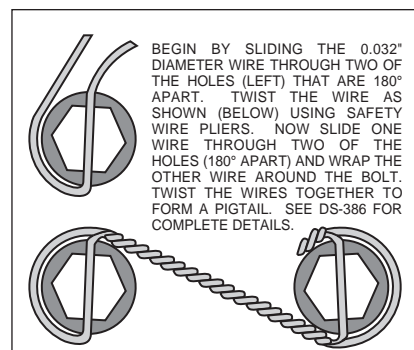

Figure 4. Safety Wire Diagram
- Slide the bracket kit assembly (1) onto the housing flange and then insert the axle assembly through the center hole of the bracket kit assembly (1). Secure using the stock Original Equipment Manufacturer (OEM) bolts and nuts. Stock OEM hex nuts that retain the bracket kit assembly (1) should be on the wheel side of the bracket. Apply red *Loctite*® 271 to the stock OEM bolt threads and torque to OEM specifications. Make sure the bracket kit assembly (1) brake pads are FACING OUTWARD TOWARDS THE WHEEL.
- With the larger I.D. side of the rotor (3) facing away from the hat (2), bolt rotor (3) to hat (2) through the backside of the rotor using washers (4) and bolts (5). Using an alternating sequence, apply red *Loctite*® 271 to the threads and torque bolts to 155 **in-lb**. For an added measure of security, the bolts may be safety wired using standard 0.032 inch diameter stainless steel safety wire as shown in Figure 4. Please refer to Wilwood's data sheet DS-386 (available at [www.wilwood.com/Pdf/DataSheets/ds386.pdf](http://www.wilwood.com/Pdf/DataSheets/ds386.pdf)) for complete safety wire installation instructions.
- Slide the rotor registration adapter (17) onto the axle register on the axle flange with the smaller O.D. facing toward the rotor/hat (2). Align the correct hole pattern in the hat with the stud pattern on the axle flange. **NOTE:** Some OEM and aftermarket axles come with stud sizes larger than 0.50" diameter. Verify stud size and have a qualified machine shop drill the hats to the correct size, if necessary. Slide the hat/rotor assembly (2 and 3) over the wheel studs covering the bracket kit assembly (1) and against the axle flange face. Check to be sure the hat seats squarely against the hub. Install a couple of lug nuts (finger tighten) to keep the rotor/hat assembly in place while continuing with the installation.